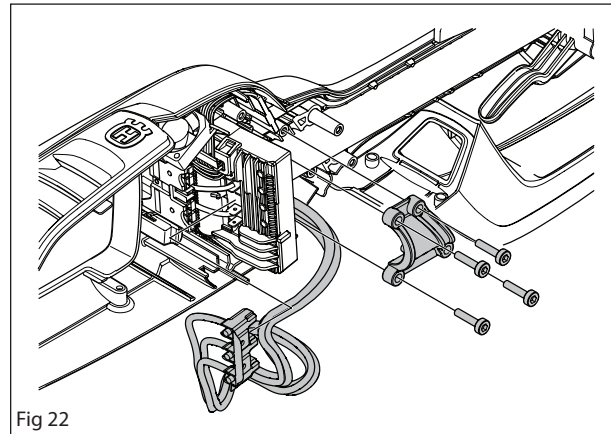

Fig 22
- 2 Dismantle the clamp holding the shaft. Separate the connector to the control unit. The shaft will now come loose from the battery housing. See figure 22.